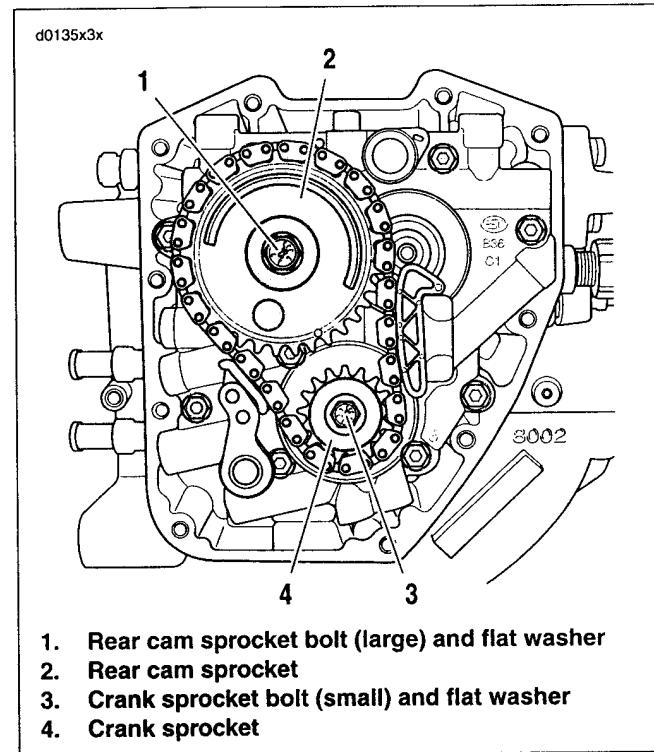

Figure 3-75. Flange Bolts
14. See Figure 3-75. Apply oil to bottom of **new** crank flange bolt head and washer (3). Loosely install bolt (small) with flat washer to secure crank sprocket (4) to end of crank-shaft.
15. Apply oil to bottom of **new** rear sprocket bolt head and washer (1). Loosely install bolt (large) with flat washer to secure rear cam sprocket (2) to end of camshaft.